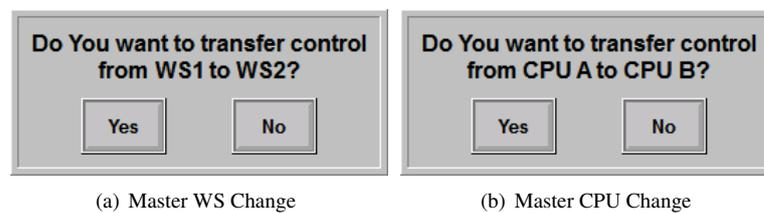

Figure 10.96: Example of the Dialog Box for Control Transfer to Another WS/CPU
- press **OK** in the opened dialog box to apply the control transfer (see Figure 10.96).